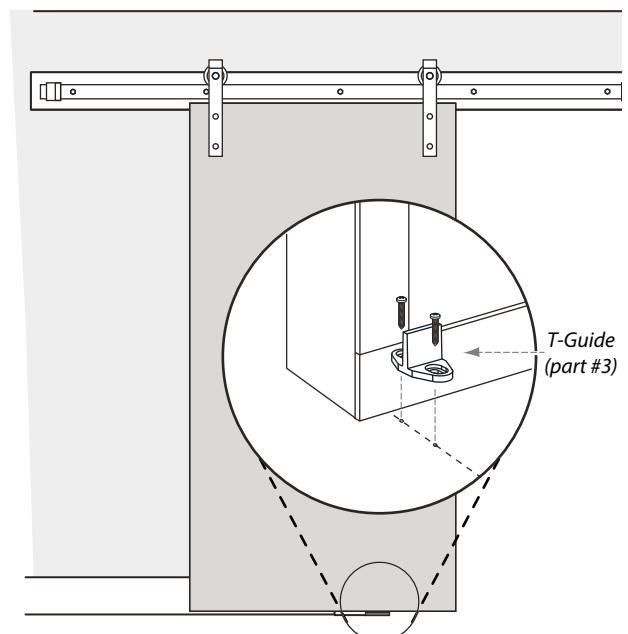

Figure 11
6. Install T-guide (part #3) on floor. With door hanging vertical (check with level), measure from wall to the middle of the groove in the bottom edge of door. Slide door carefully (so as to not have the door come off the track) all the way to the other end of the track. Install T-guide. Roll door back to middle. (figure 11)